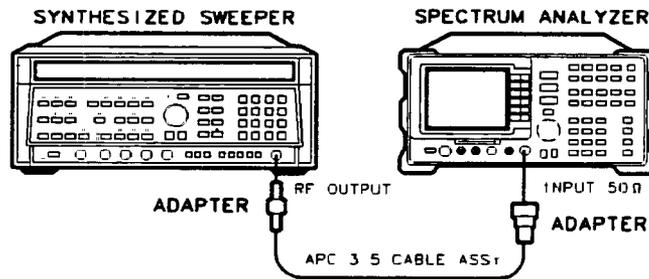

Figure 4-2. Frequency Readout Accuracy Test Setup
1. Connect the equipment as shown in Figure 4-2.